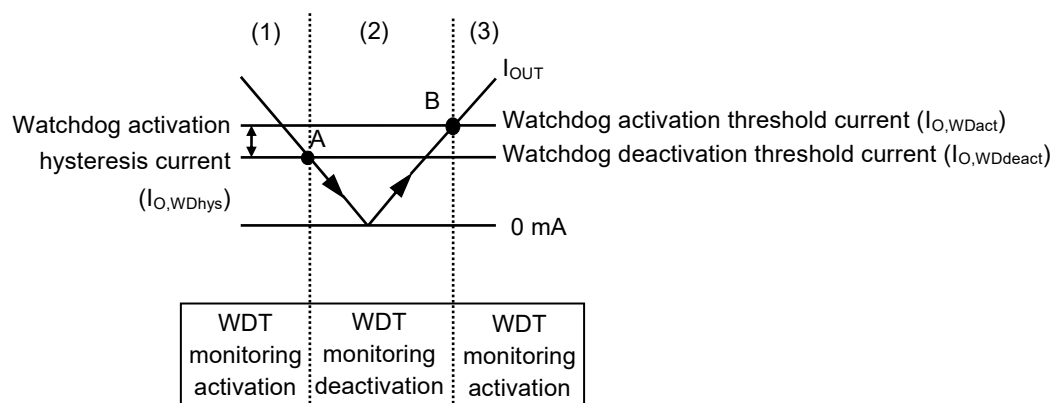

Figure 38 Autonomous Watchdog Operation Function
- (1) When I_{OUT} of the regulator is the watchdog activation threshold current ($I_{O,WDact}$) or more, the WADJ pin voltage (V_{WADJ}) is higher than the reference voltage (V_{ref}), and the output of the comparator (C1) is "H". At this time, the watchdog timer is activated.
- (2) When I_{OUT} decreases to the watchdog deactivation threshold current ($I_{O,WDdeact}$) (point A in **Figure 38**) or less, V_{WADJ} decreases to V_{ref} or less and the output of C1 is "L". At this time, the watchdog timer deactivates the monitoring. Even if I_{OUT} increases, the watchdog timer continues the monitoring deactivation when I_{OUT} is within less than $I_{O,WDact}$.
- (3) If I_{OUT} further increases to $I_{O,WDact}$ (point B in **Figure 38**) or more, V_{WADJ} increases to V_{ref} or higher and the output of C1 is "H". And then, the watchdog timer initiates the monitoring activation.